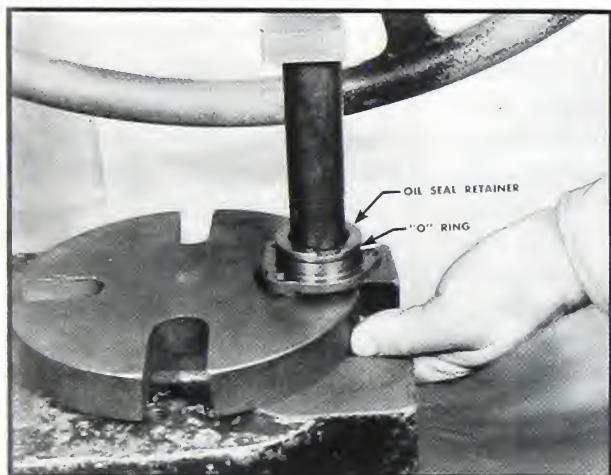

Fig. 5-312. Pressing out oil seal
3. Press the oil seal out of the bearing retainer. Fig. 5-312.